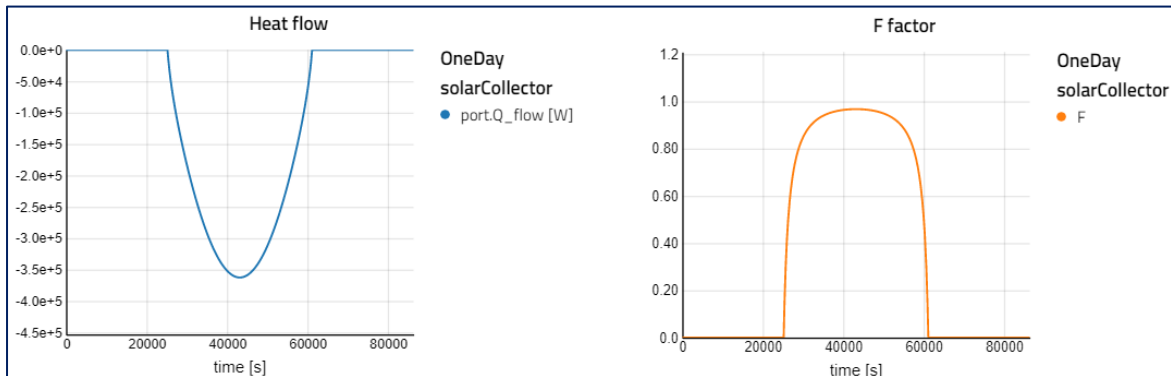

Figure 2 SolarCollector Test
6. Simulate the model for 86400 seconds and plot the heat flow in the heat connector and the F factor. If implemented correctly, the results should look like Figure 2.